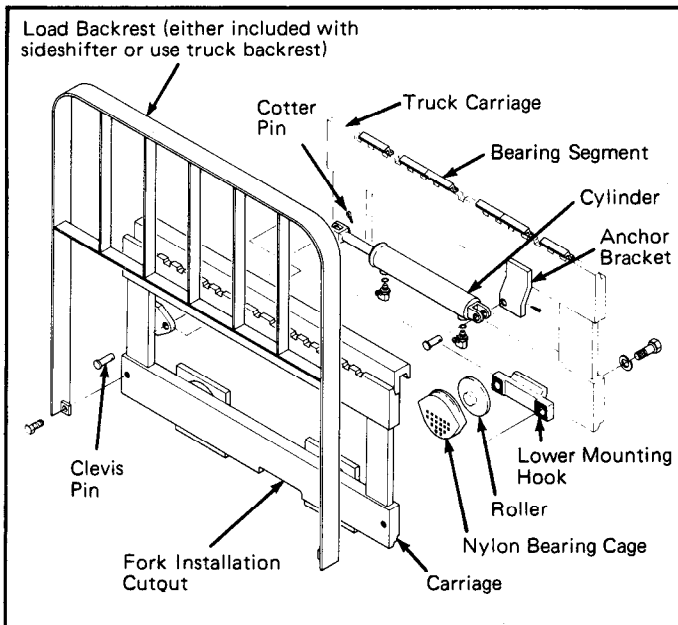

Figure 12. Sidshifter Assembly
These instructions contain installation procedures for the 30C, 55C, and 100C Sidshifter. Figure 12 is an illustration of the complete sidshifter assembly (the backrest may either be included with the sidshifter or you may use the backrest from your truck carriage). Refer to this illustration when installing the sidshifter. The capacity of each sidshifter is listed on the following chart.
PRIOR TO INSTALLATION (SEE FIGURE 12)
4. Install the cylinder and secure the clevis pin with the cotter pin as shown in Figure 12.
2. Place each fork over the cutout in the lower fork bar of the sideshifter. See Figure 12.